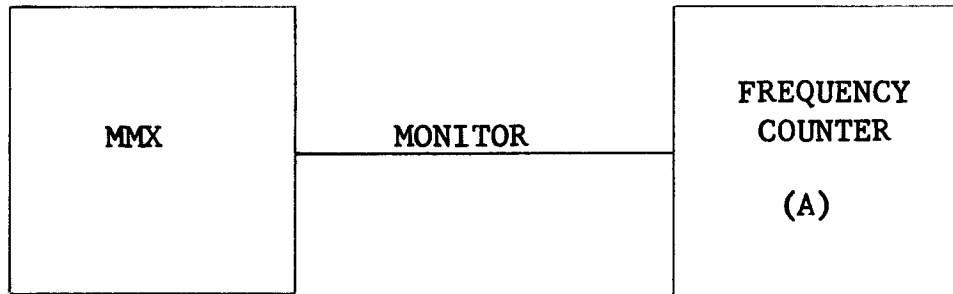

FIGURE 2.7
- a. Connect the equipment as shown in Figure 2.7